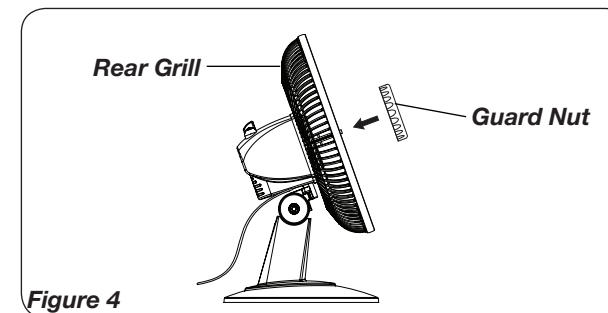

Figure 4
4. Tighten with *Guard Nut* turning **CLOCKWISE**. (Figure 4)